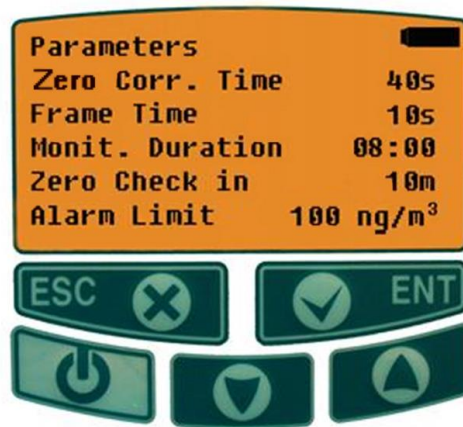
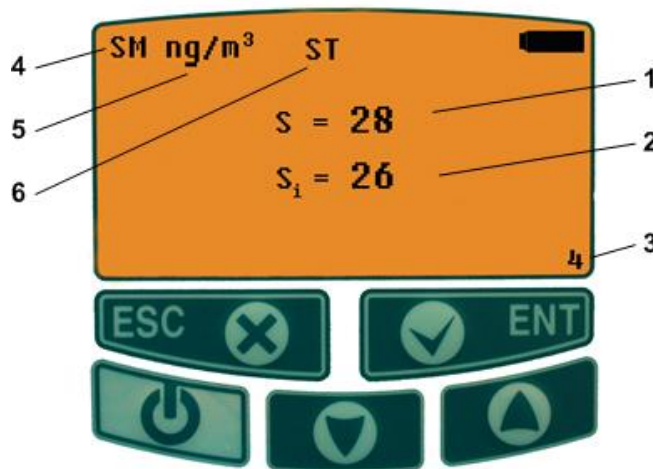

Fig. 2-4 - Parameters Menu
Fig. 2-7 - On Stream mode window
The **Parameters menu** window will be displayed (Fig. 2-4).
Select the *On stream* mode from the **Main menu** (Fig. 2-2) by the ↑ and ↓ navigation buttons and press the **Ent** button. The zero check procedure, duration of which (t_{zero}) was set in the **Parameters menu** (Fig. 2-4), starts. Immediately after the zero check procedure is completed, the measurement of mercury vapour concentration in the multi-path cell occurs. An example of the measurements results is shown in Fig. 2-7.
- 2 – Mean value (**S_i**) is the mean value of the mercury vapour concentration over the frame time (displayed once per frame time) (ref. 2.1.4, Fig. 2-4).
- The “Low radiation” sign («•») appears on the display at low intensities of light which means that the intensity of light is not sufficient for correct operating (ref. 4);
- The «A» sign appears on the display if the measured mercury vapour concentration exceeds the specified upper limit value which can be set in the **Parameters menu** (ref.2.1.4, Fig. 2-4).
- Select the *High Concentration* mode In the **Main menu** using the \uparrow , \downarrow buttons and press the **Ent** button. The analyzer automatically started the zero check procedure duration of which was set in the **Parameters menu** (ref. 2.1.4, Fig. 2-4);
- 2 – Average value (S_i) is the average concentration of mercury vapour over the frame time (displayed once per frame time) (ref. 2.1.4, Fig. 2-4).
- 2 – Average value (S_i) is the average mercury vapour concentration over the frame time (displayed once per frame time) (ref. 2.1.4, Fig. 2-4).
- 8 - Range (**R, %**). It is the relative difference between the maximum and minimum values of mercury vapour concentration taken from the three latest measurements (ref.6):